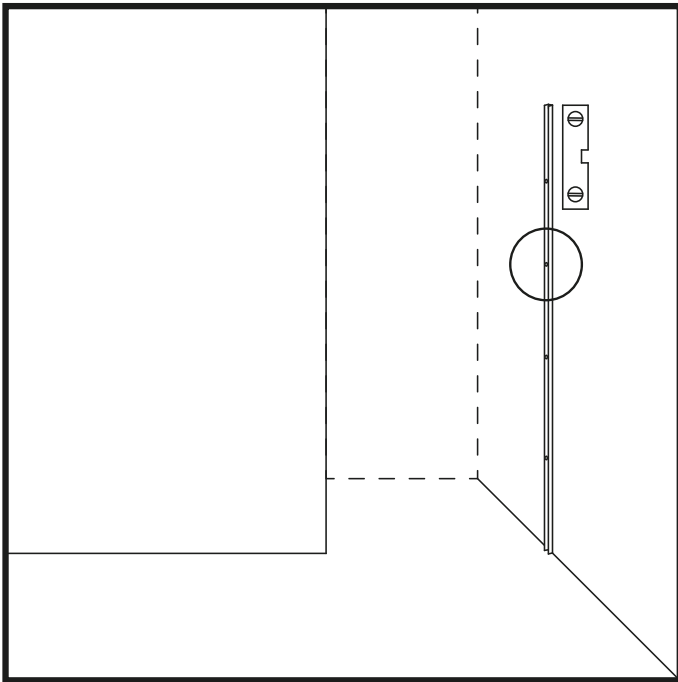

Figure 3
5. Place the longer U-profile vertically on the wall using a level so that the edge of the U-profile is flush with the marked dot and the end of the slat is against the floor. Mark the holes in the profiles (the locations of the dowel holes) on the wall and remove the profile. If marks remain on the edges of the ceramic tiles, try turning the profile the other way and making the marks again. (Figure 3)